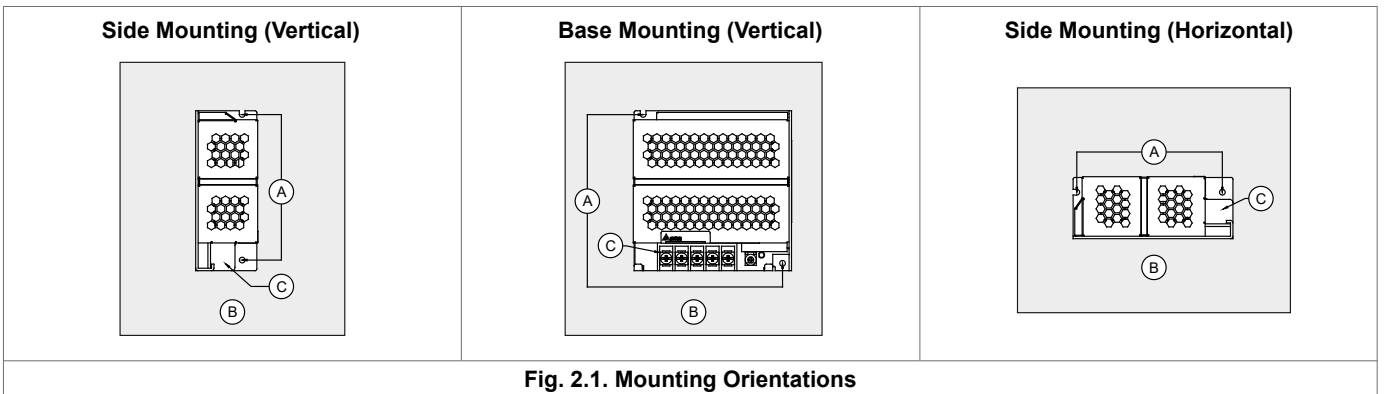

Fig. 2.1. Mounting Orientations
► **PMH-50WCA□, PMH-100WCA□, PMH-100WCC□, PMH-100WCN□, PMH-150WCA□, PMH-150WCD□, PMH-200WCB□** (Refer to Fig. 2.1)